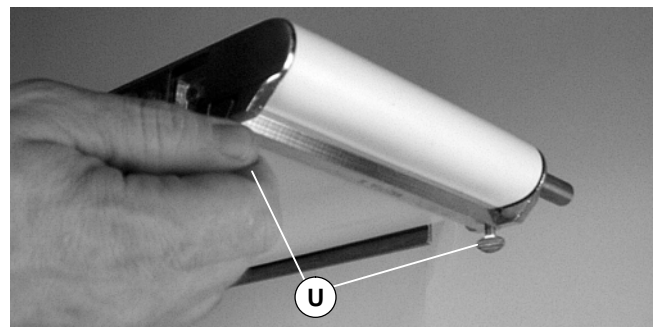
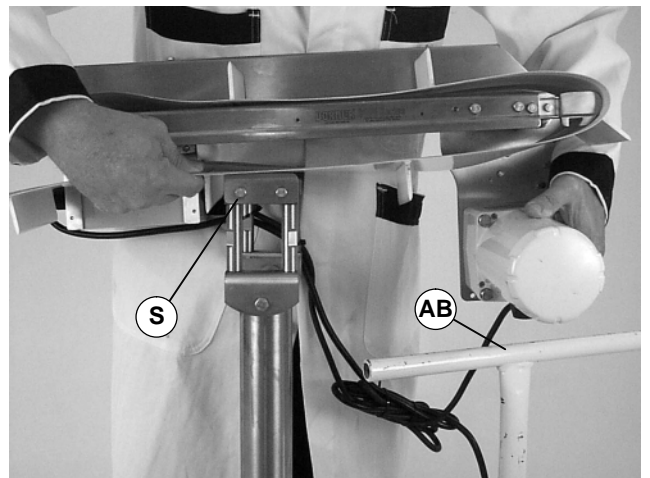

Figure 18
Figure 23
1. For a flat belt conveyor, remove and retain the bottom wiper(s) (U of Figure 18).
The weight of the gearmotor is all on one end of the conveyor which could cause it to tip off the stands when the mounting clamp plates are loosened. Be sure to provide support (AB of Figure 23) underneath the gearmotor while changing the belt.
6. Temporarily support conveyor at gearmotor mounting package (AB of Figure 23).
7. Loosen the mounting clamp plates (S of Figures 23 and 24), on both sides of the conveyor. Raise the conveyor and remove the belt.
3. On a flat belt conveyor, install bottom wiper(s) (U of Figure 18). Center thumbscrews in frame and tighten.
2. Loosen the mounting clamp plates (S of Figures 23 and 24), on both sides of the conveyor. Raise the conveyor and replace the belt.
4. Tighten clamp plates screws (S) to 10.4 Nm.
5. On a flat belt conveyor, install bottom wiper(s) (U of Figure 18). Center thumbscrews in frame and tighten.